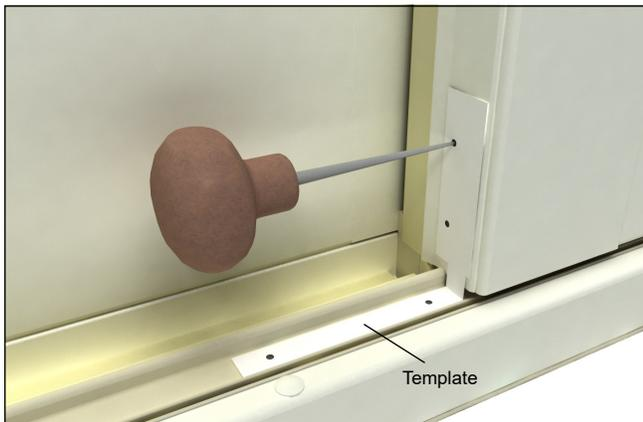

Figure 1
2. Orientate the template for the correct operation of your door and bend at perforated line. Tape the template to the door and sill. Use an awl to mark all holes as shown in figure 1.